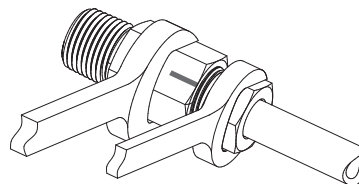

Fig.4
4. Hold the fitting body or the valve steady. Refer to Table 1 to tighten the nut with a wrench to the specified number of turns, noting that the number of turns varies for different types of tubing (Fig. 4).
4. Hold the manual presetting tool steady. Refer to Table 1 to tighten the nut with a wrench to the specified number of turns, noting that the number of turns varies for different types of tubing (Fig. 4).